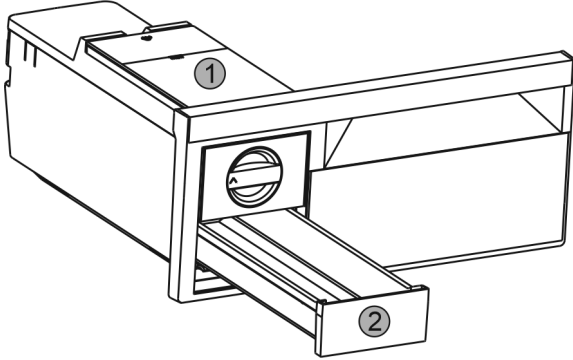

Fig. 38
- ▶ Take out the water tank Fig. 38 (1) and ice cube drawer Fig. 38 (2).